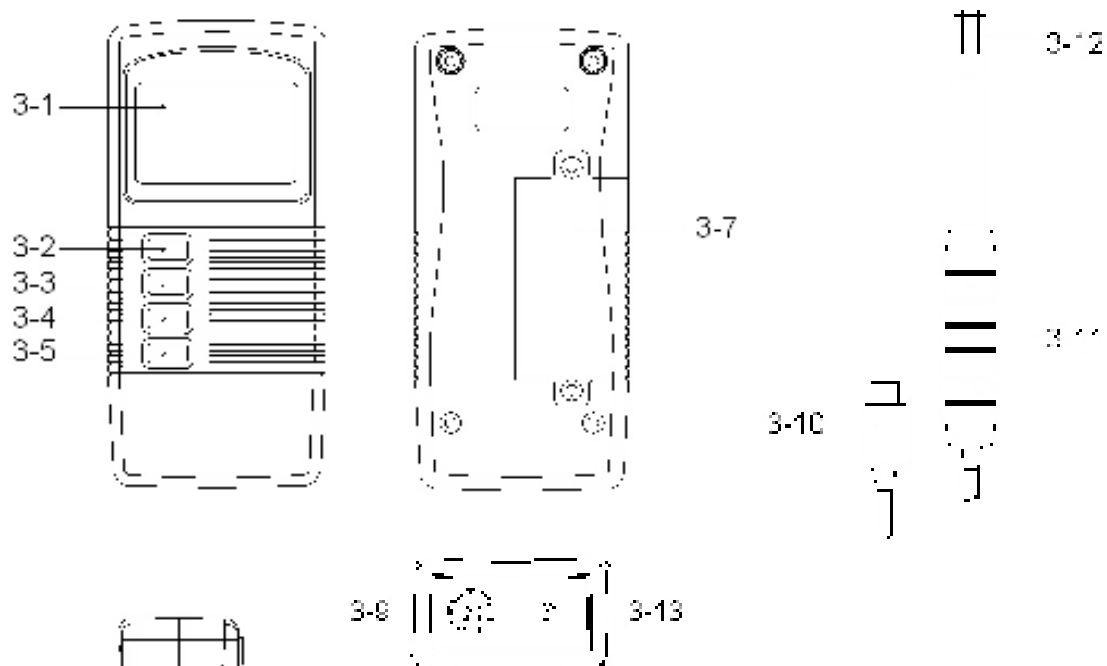

Fig. 1
- 1) Plug the " Probe Plug " (3-10, Fig. 1) into the " Probe Input Socket " (3-9, Fig. 1).
- 2) Power on the meter by pressing the " Power Button " (3-2, Fig. 1), the LCD shows the unit " %RH " & " °C " at the same time and measured value will show on the display (upper display is Humidity value, the lower display is the temperature value) .
The procedures of " Dew point measurement " are same as the above " 4-1 Humidity and Temperature measurement " except select the " Dew point " function by pressing the " Function Button " (3-5, Fig. 1) once, the LCD will show the unit " DEW " & " °C (or °F) . The upper display show the Dew point value, the lower display show the temperature value.
During the measurement, press the " Hold Button " (3-3, Fig. 1) once will hold the measured value & the LCD will display a " HOLD " symbol.
- * The data record function records the maximum and minimum readings. Press the " REC Button " (3-4, Fig. 1) once to start the Data Record function and there will be a " REC. " symbol on the display.
- a) Press the " REC Button " (3-4, Fig. 1) once, the " REC. MAX. " symbol along with the maximum value will appear on the display.
If intend to delete the maximum value, just press the " Hold Button " (3-3, Fig. 1) once, then the display will show the " REC. " symbol only & execute the memory function continuously.
- b) Press the " REC Button " (3-4, Fig. 1) again, the " REC. MIN. " symbol along with the minimum value will appear on the display.
If intend to delete the minimum value, just press the " Hold Button " (3-3, Fig. 1) once, then the display will show the " REC. " symbol only & execute the memory function continuously.
- a. Hold the " Set Button " (3-6, Fig. 1) at least two seconds until the lower display show " COde ", then release the " Set Button ", the upper display will show " 1000 ".
After display show " COde 1000 ", push the " Enter Button " (3-4, Fig. 1) once will go to the following b. procedures.
* If push the " ESC Button " (3-3, Fig. 1) will escape the selecting function and return to the normal measuring display.
- b. One by one to press the " Set Button " (3-6, Fig. 1) once a while to select the two main function that show on the lower display as :
Use the " Set Button " to select the main function to " °F ", then one by one to press the " Function Button " (3-5, Fig. 1) a while will determine the default Temp. unit to °C or °F
After the function is determined, press the " Enter Button " (3-4, Fig. 1) to confirm and save the selection data into memory IC permanently. Press the " Esc Button " (3-3, Fig. 1) will revert to normal display screen.
Use the " Set Button " to select the main function to " OFF ", then one by one to press the " Function Button " (3-5, Fig. 1) a while will determine the default the power management system is Auto Power Off enable or disable.
After the function is determined, press the " Enter Button " (3-4, Fig. 1) to save the selection function into memory IC permanently. Press the " Esc Button " (3-3, Fig. 1) will revert to normal display screen.
The instrument has RS232 PC serial interface via a 3.5 mm terminal (3-8, Fig. 1).
- 2) Slide the " Battery Cover " (3-7, Fig. 1) away from the instrument and remove the battery.